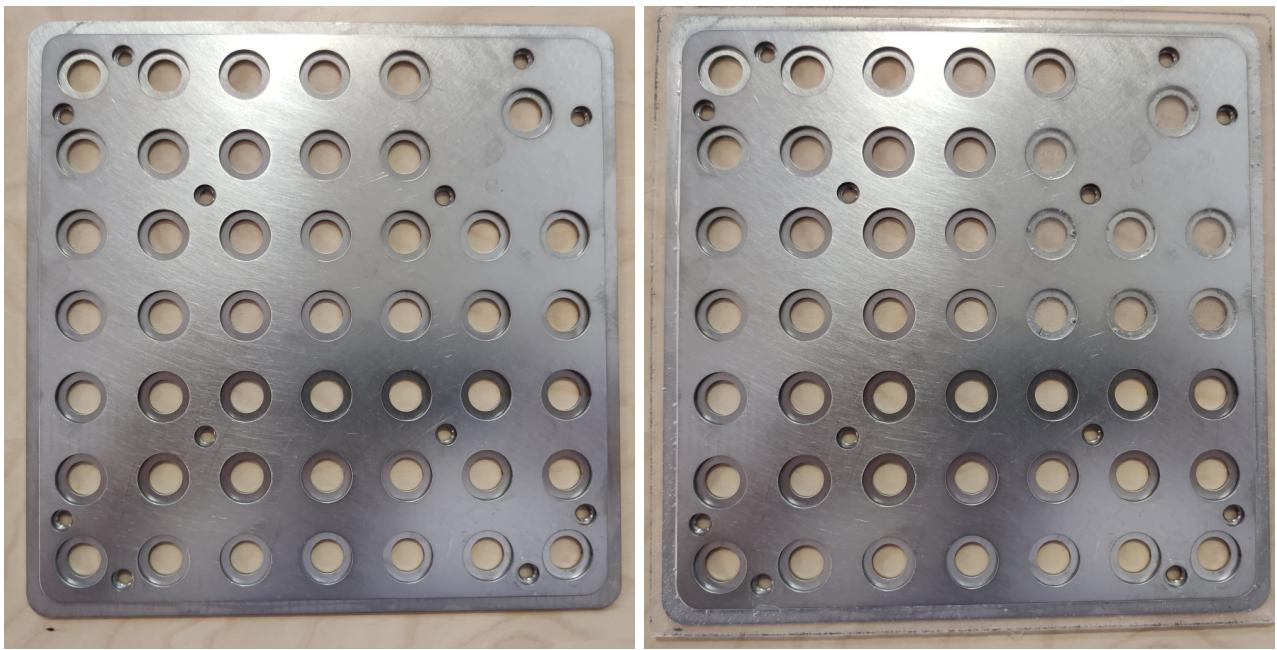

Fig. 4.11
- 1) The lid is assembled by placing the middle section on the bottom section, aligning the screw holes (Figure 4.11, left). The silicone discs are placed in the middle section and the silicone rim placed along the edge of the middle section (Figure 4.11, right).